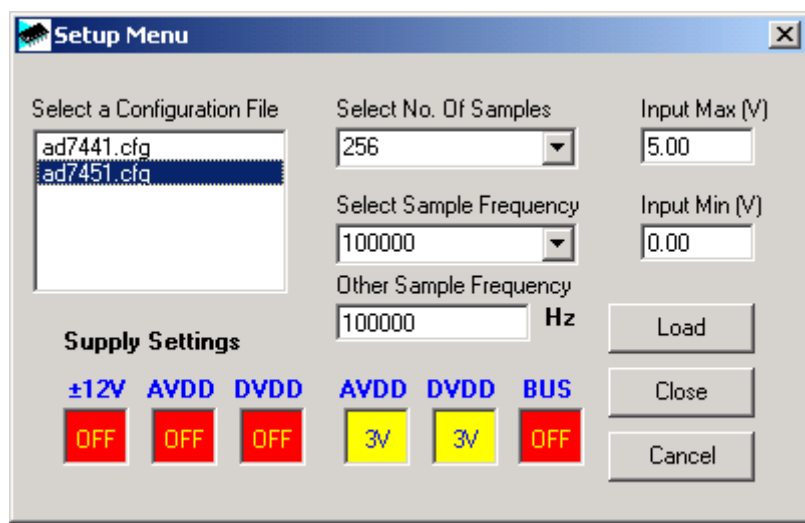

Figure 3. The Setup Menu
For the AD7441/AD7451 evaluation board and EVAL-CONTROL\_BRD2 to communicate with the software, the required configuration files must be loaded from the **Setup Menu** (see Figure 3).
2. Open the **File** menu and select **Setup**. This displays the setup menu dialog box (see Figure 3).
- **Setup Menu.** Selecting this option displays the **Setup Menu**. See Figure 3 and the Configuring the Boards section for a detailed description of this menu.